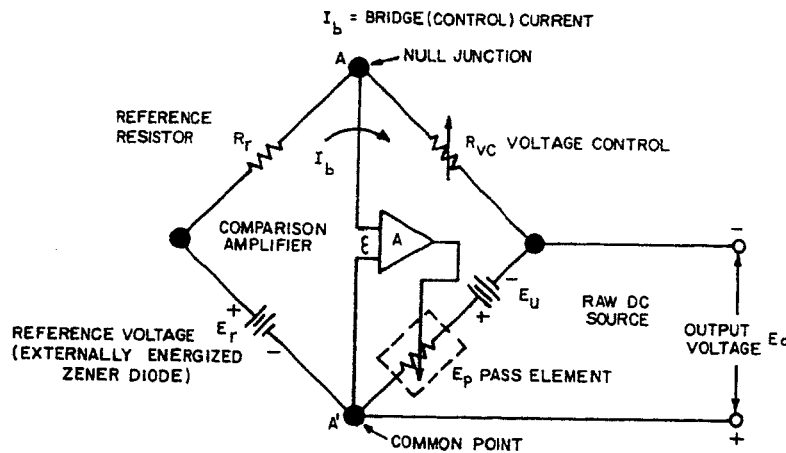

FIG. 3-4 KEPKO POWER SUPPLY AND COMPARISON BRIDGE CIRCUIT.
3-9 GENERAL. Electrically, the power supply consists of the raw d-c source ( $E_u$ ), the pass element ( $E_p$ ), the d-c error amplifier (A) and a comparison circuit which resembles a four-arm electrical bridge. (Refer to FIG. 3-4). The elements of the bridge are arranged to produce a virtual zero at the amplifier input when the bridge circuit is at balance ( $V_{AA'} = 0$ , when  $E_r/R_r = E_o/R_{VC}$ ). Any tendency for the output voltage to change in relation to the reference voltage ( $E_r$ ) creates an error signal ( $\epsilon$ ) which, amplified by the d-c error amplifier, tends to correct the output voltage towards restoration of bridge balance.